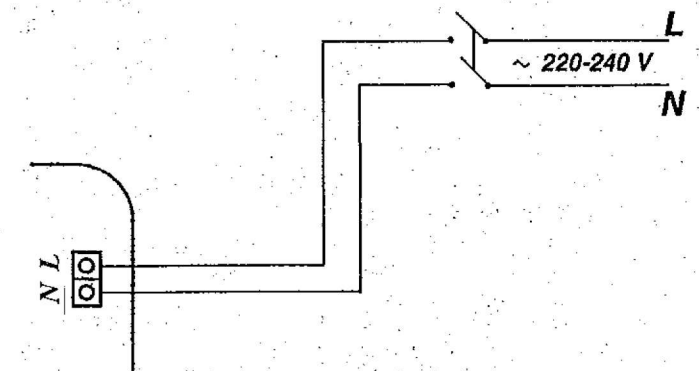

Fig. 9
**SENSOR MODEL (fig. 9)**
**MODEL MED SENSOR (fig. 9)**